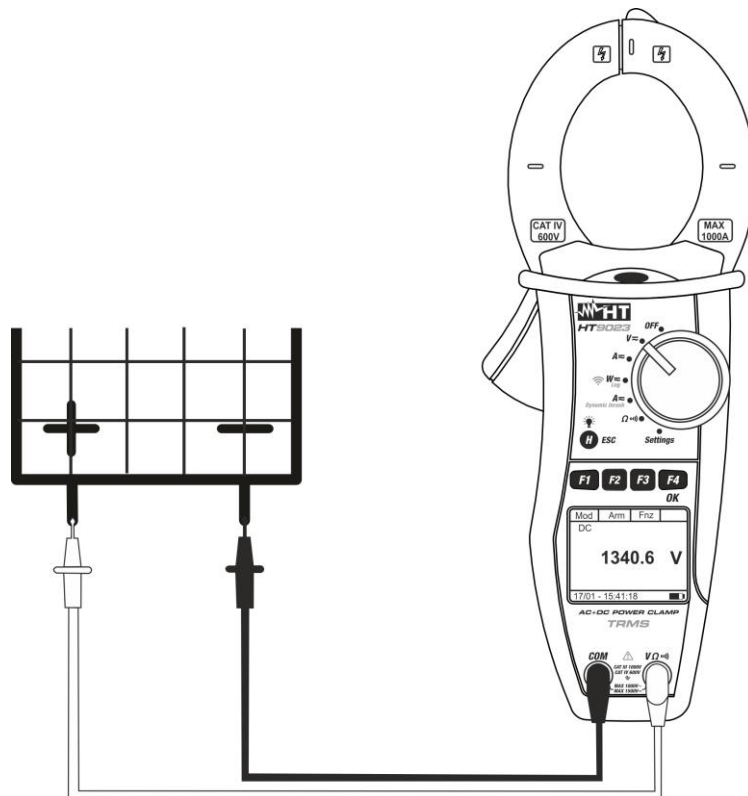

Fig. 5: DC Voltage measurement
4. Connect red cable to input lead **VΩⓂ** and black cable to input lead **COM** then position the leads at the desired points of the circuit under test (see Fig. 5)